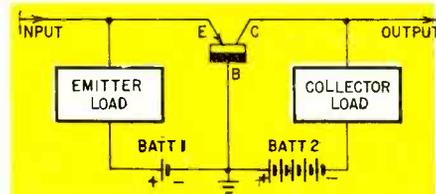

Fig. 1—Common-base amplifier.
**Transistors are unstable.** The first transistors were point-contact units. These transistors, by their very nature, had very high gain—so high, that they exhibited a negative resistance characteristic in some circuit configurations. As a result, amplifier circuits using these components had a tendency to oscillate and oscillators would often change their mode of operation. To combat this tendency, the common-base circuit configuration (see Fig. 1) was almost mandatory when point-contact units were used in practical equipment. Modern transistors, on the other hand, are very stable, and a properly designed transistor amplifier may have superior stability characteristics when compared to a vacuum-tube amplifier with similar performance specifications.